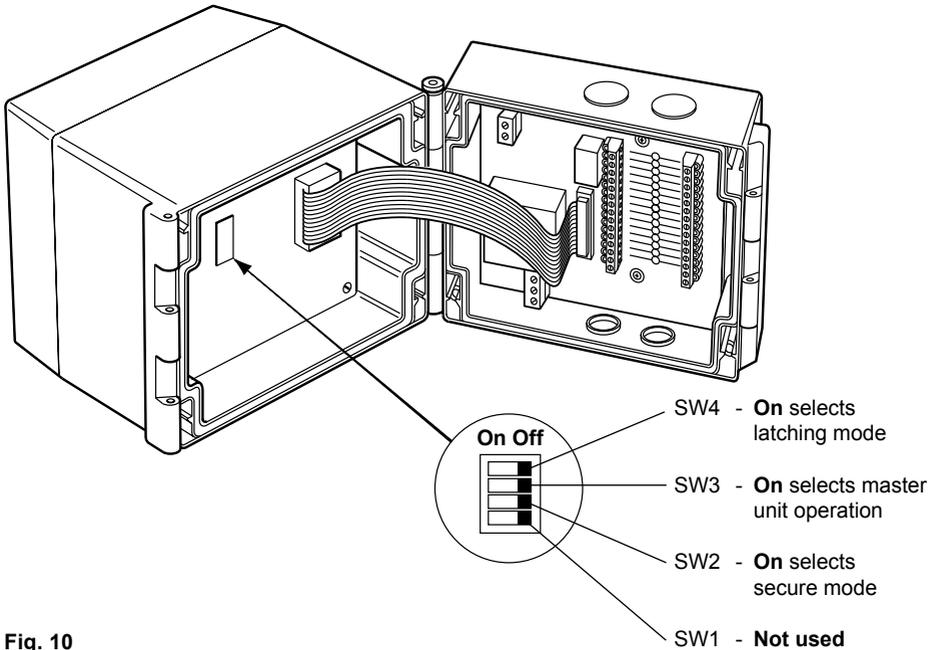

Fig. 10
There are three modes of operation which can be set using the switches housed inside the R16C monitor (see Figure 10).
The Latching Mode is selected by moving switch SW4 to the '**On**' position (see Section 4.1, Figure 10). When the R16C monitor is operating in Latching Mode the **Latching light (G)** is illuminated.
The Secure Mode is selected by moving switch SW2 to the '**On**' position (see Section 4.1, Figure 10). In the Secure Mode the operation of the unit is unaltered. **Key 1** can be pressed to test the R16C and **key 2** can be pressed (if Latching Mode has been set) to acknowledge a previously failed trap. However, any attempt at setting up via the keypad (see Section 4.6) will be ignored and the **Secure mode light (J)** will illuminate.
The Master Unit Mode is selected by moving switch SW3 to the '**On**' position (see Section 4.1, Figure 10). In Master Unit Mode the R16C monitors the relay output (PL2) of a number of R16C slave units.